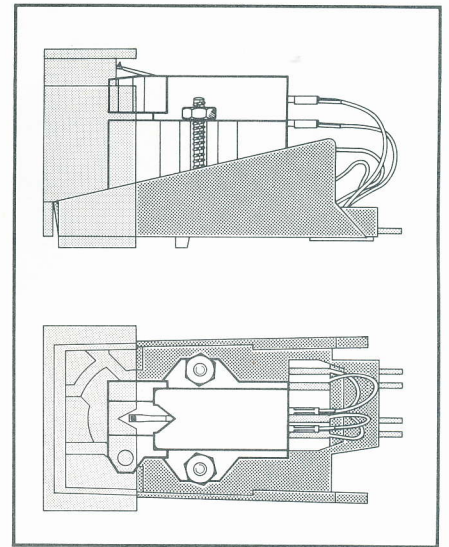

Fig. 14
2. Fasten the cartridge with the help of the accessories and jig supplied with the cartridge holder Dual TK 14 and the cartridge. Be sure it is located correctly. (Fig. 14).